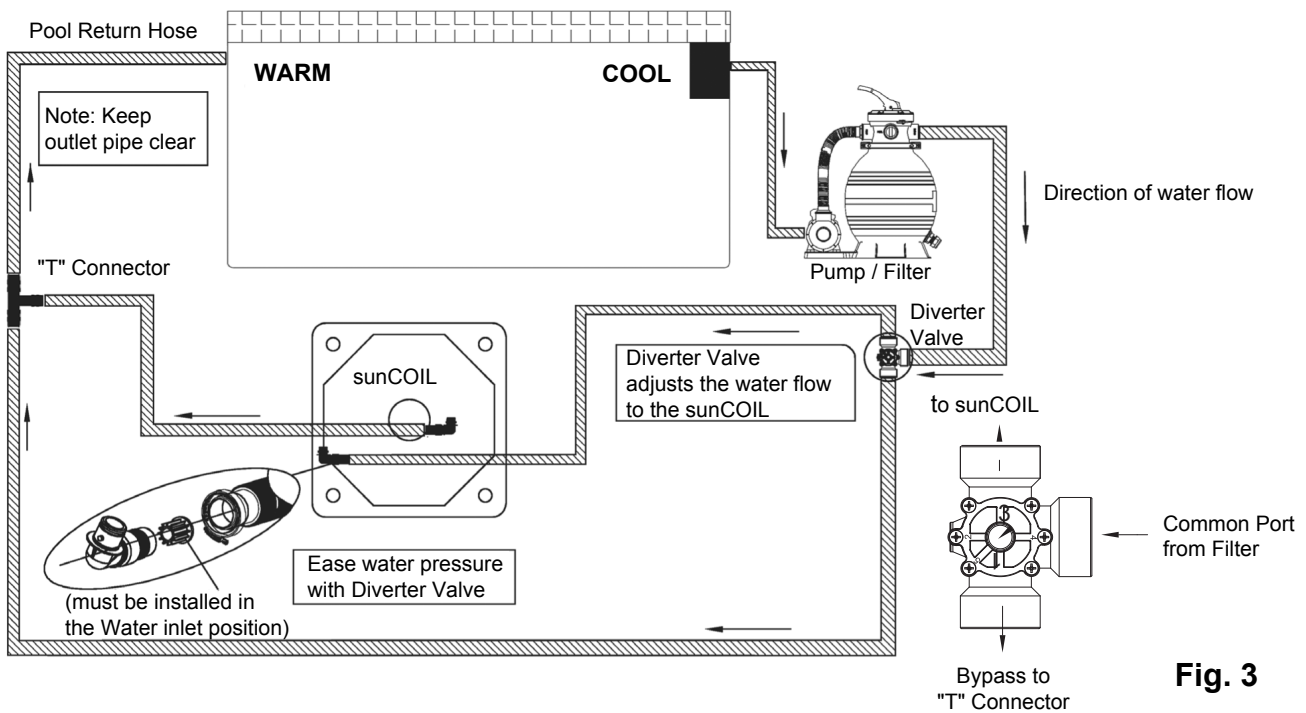

Fig. 3
NOTE: The connections in Fig. 3 & 4 show the water flowing into the sunCOIL through the side connector and out through the center connector located on the underside of the sunCOIL. This diagram is for reference only as the flow may be reversed if you choose. The **FLOW REDUCER must** put into the elbow closest to the filter.
- B. Position the Diverter Valve exactly as shown in the diagram on Page 4 (see Fig 3). The valve **must** be installed correctly for the sunCOIL to work. Failure to position the Valve correctly will reduce the sunCOIL 's ability to heat the pool water.
- F. Connect a hose from the Elbow to the Diverter Valve (see Fig. 3 & 4).
- A. The "T" Connector must be positioned exactly as shown in Figures 3 & 4. Failure to position the "T" Connector correctly will reduce the effectiveness of the sunCOIL.